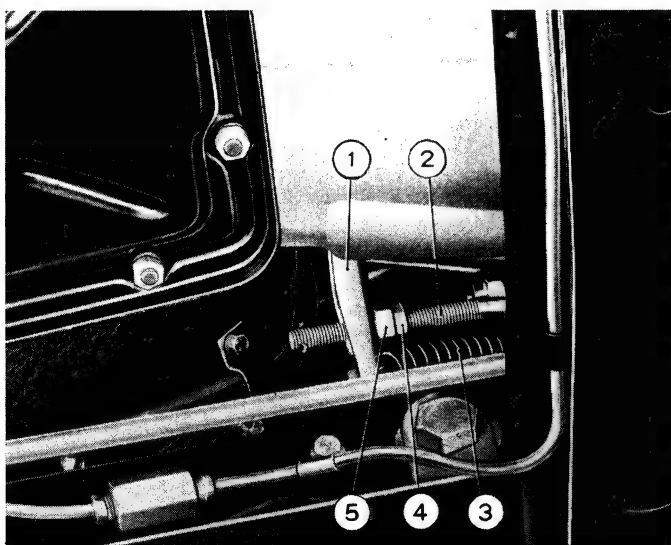

Fig. 106. - Detail of clutch throwout lever (1500 Cabriolet).
Should this free travel be reduced or annulled on account of lining wear, the clutch would be liable to slip. If so, restore correct pedal play by working on the adjusting nut (5, fig. 106) of yoke lever push rod (2); then lock the nut (5) through the counternut (4).